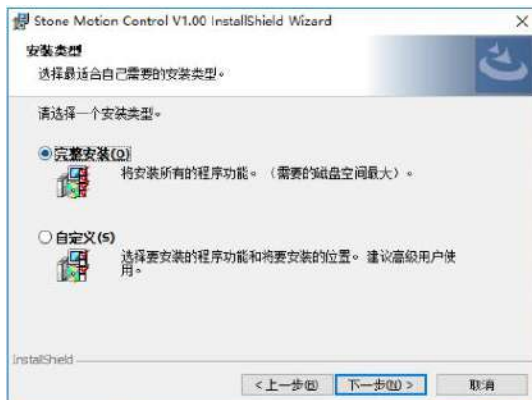

Figure 6-4 Setup type
5. Click "**Next**", and select the setup type, as shown in Figure 6-4. Generally, please use the default type.